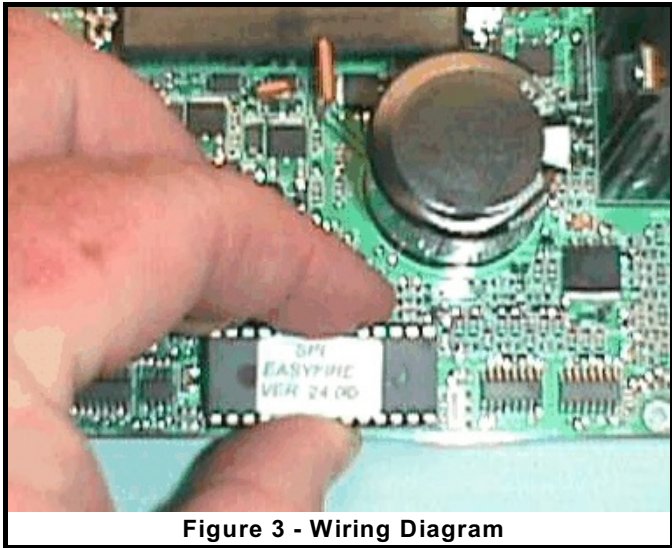

Figure 3 - Wiring Diagram
- 1) Carefully layout new software noting the label direction and small dot on upper right corner (**Figure 3**).